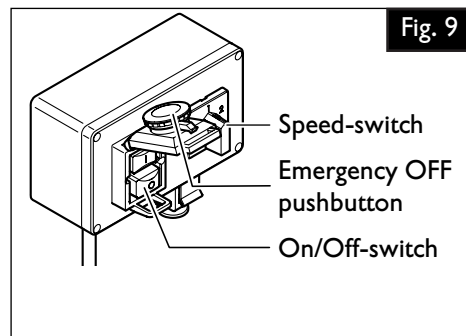

Fig. 9
9.1 Switching ON: (Figure 9)
9.2 Switching OFF: (Figure 9)
9.3 Emergency OFF pushbutton: (Figure 9)
9.4 Changing the speed (Figure 9 – models 2H).